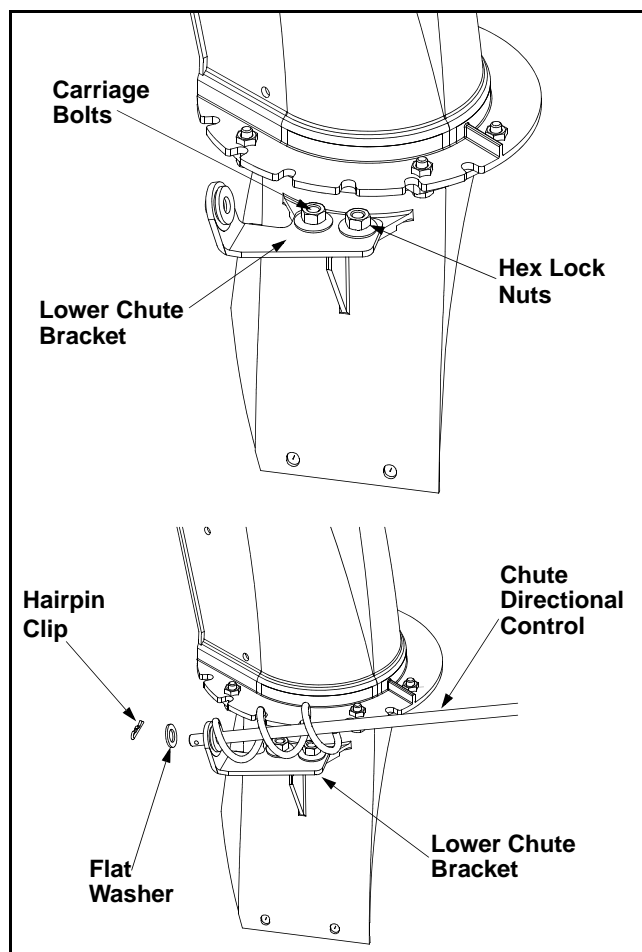

Figure 14
- To align the spiral on the chute directional control, you may have to loosen the carriage bolts and hex lock nuts securing lower chute bracket to the extension on the left side of the chute assembly. See Figure 14.
- Place the flat washer on the end of the chute directional control, and insert hairpin clip into hole in the end of control. See Figure 14.